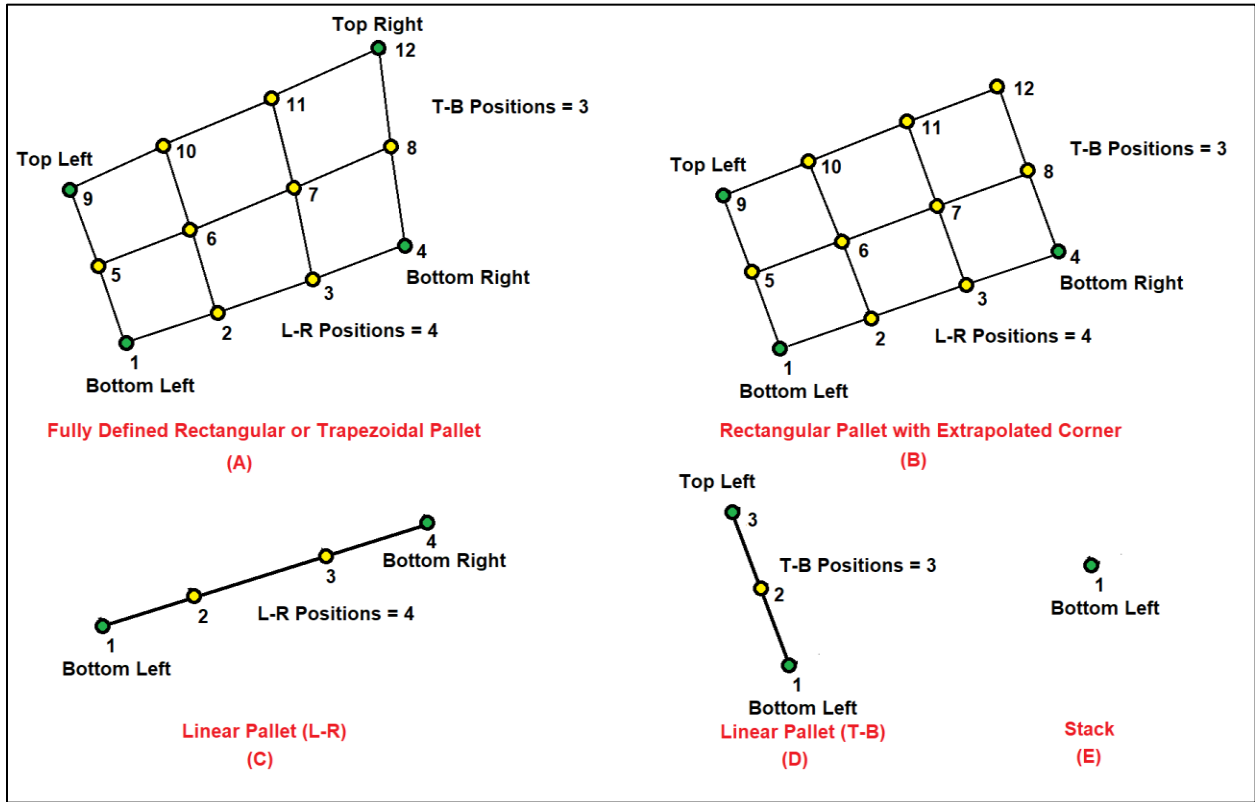
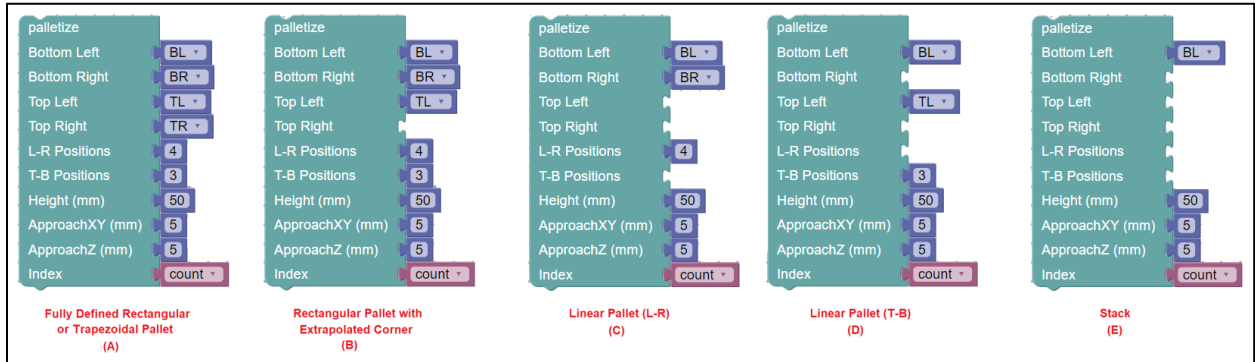

Figure 30 - Pallet Configurations
Figure 31 - Pallet block usage
**Place On** assumes the top of the object is to be placed at the specified waypoint. **Place On** assumes the XXX. The **Place At With Offset** block allows the surface to be defined by the waypoint and the offset is typically the height of the object to be placed, which may be computed automatically as a result of a visual pick. This is used for visual placement or stacking. The **Stack** block is for blind stacking objects of known height. The **Palletize** block provides a high degree of flexibility in placing objects in a grid pattern, described in Figure 30. The list of the Place blocks is shown in Figure 29.
palletize	blind place in a pallet (see Figure 30)
The **Palletize** block provides a high degree of placement flexibility. Figure 30 shows the five different configurations for this block, while Figure 31 shows the use of the block on the canvas for the various configurations. For each configuration, waypoints are used to specify the corner locations of the pallet by indicating the top-center locations of the object to be palletized. Up to four waypoints can be specified, to fully define the pallet geometry (A), which can have a rectangular, parallelogram, or trapezoidal shape. These waypoints are the **Bottom Left**, **Bottom Right**, **Top Left**, and **Top Right**. The blockly examples (Figure 31) show waypoint definitions (from the Waypoint or Move category) attached to the waypoint sections of the palletize block. Fewer than four waypoints can be specified, in order to create simpler palletization scenarios. For example, if the **Top Right** waypoint is unspecified, this location is extrapolated from the three specified points (**Bottom Left**, **Bottom Right**, and **Top Left**) as shown in example (B). Linear pallets can be specified using just two waypoints, using the **Bottom Left** and **Bottom Right**, shown in example (C), or using the **Bottom Left** and **Top Left**, shown in example (D). If only the **Bottom Left** waypoint is specified, the palletize block will simply stack at the **Bottom Left** waypoint, shown in example (E).
The last parameter, **Index**, is a variable that starts at 1 to indicate the object should be set at the **Bottom Left** location. Incrementing **Index** will cause the palletize block to compute positions first along the **L-R** direction between the **Bottom Left** and **Bottom Right** and then increment along the **T-B** direction between the **Bottom Left** and **Top Left** and then increment in **Height**. The numbers in Figure 30 indicate the palletizing order for the first layer.